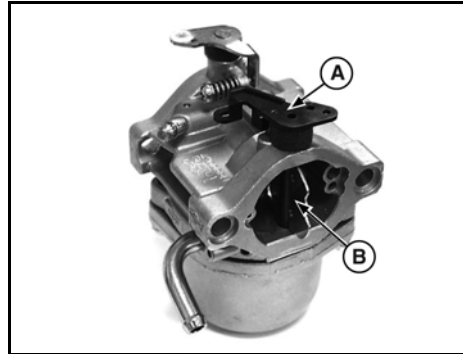

Figure 61
9. Rotate the choke shaft to the wide open position (Figure 61), then pull the choke plate (B) from the shaft (A).